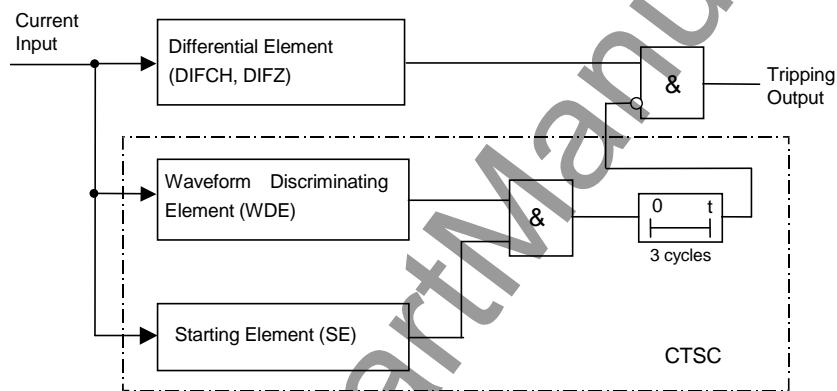

Figure 2.3.15 Differential Element with CT Saturation Countermeasure
Figure 2.3.15 shows a block diagram of a CT saturation countermeasure (CTSC). CTSC has a waveform discriminating element (WDE) and starting element (SE). WDE operates if a change in the instantaneous value of the differential current is less than a specified percentage of a change in the instantaneous value of the restraining current. In the CT non-saturation period, the differential current is theoretically zero for through-fault currents. This element operates in this period.